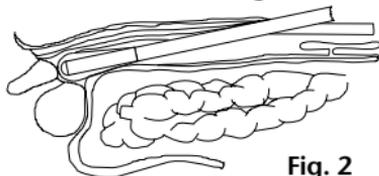
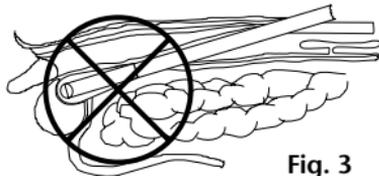

Fig. 2
Fig. 3
2. Push the (bilateral) dilating balloon system forward until reaching a suitable position in the extraperitoneal space (see fig. 2). In no case should you introduce the instrument too deeply and apply too much pressure onto the balloon to avoid injury to adjacent organs and structures, e.g. the bladder. (Fig. 3). Place the balloon system with the green mark at its base (only 1285-50-11) facing up, i.e. pointing away from the abdominal wall. This is the only way to make sure that the balloon unrolls laterally from bottom to top.